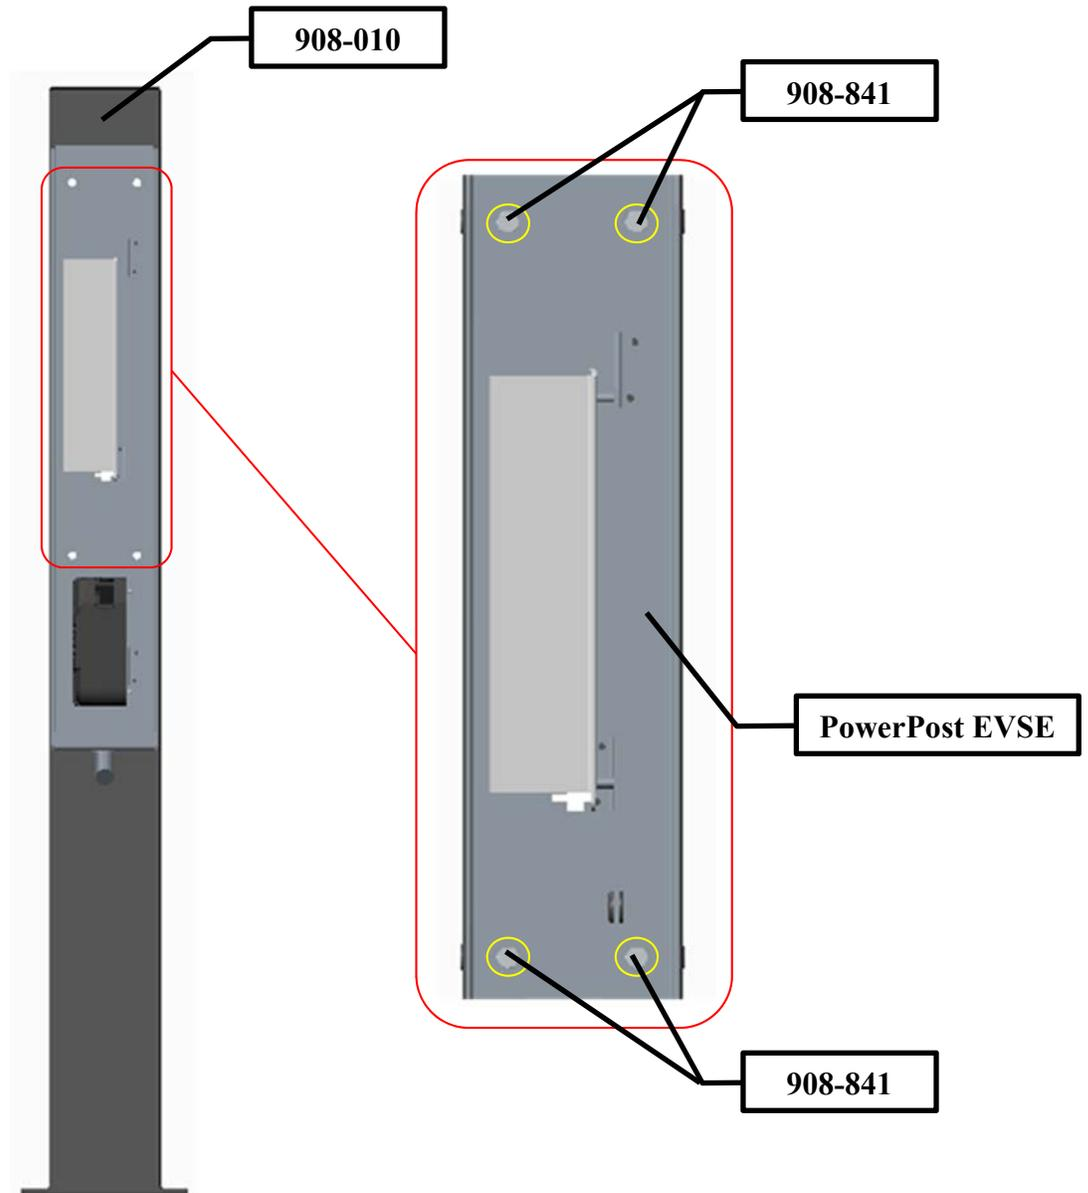

Figure 12: Installation of Mounting Hardware
- I. Secure PowerPost EVSE to Post 918-010 using (4) Hex Head Bolts 908-841, torque to 20 ft-lb. See Figure 12.